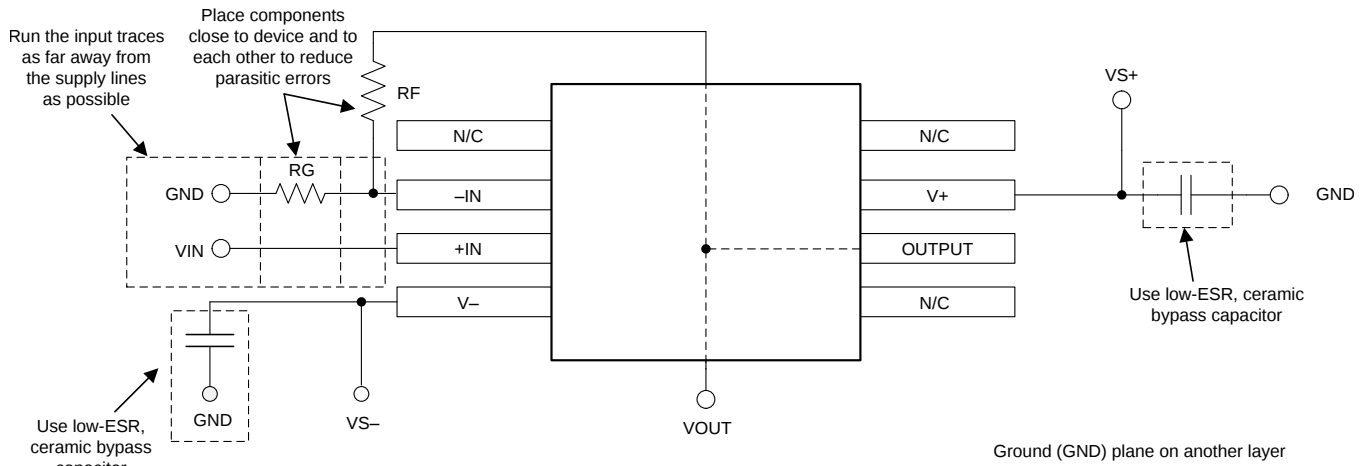

图 45. Operational Amplifier Board Layout for a Noninverting Configuration
- Place the external components as close to the device as possible. As illustrated in Figure 45, keeping R_F and R_G close to the inverting input minimizes parasitic capacitance.